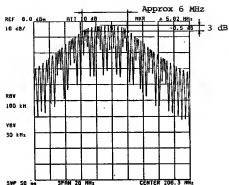

Fig. 11-59 TG 206 MHz B.P.F. adjustment
- (3) 206 MHz B.P.F. adjustment
- (b) The 206.33 MHz B.P.F. response can be observed at the J35 (206.33 MHz IF output) by changing the output frequency of the signal generator. Adjust C179, C184, and C185 until the filter response is symmetrical around 206.33 MHz and its maximum level is attained. (See Figure 11-59.)